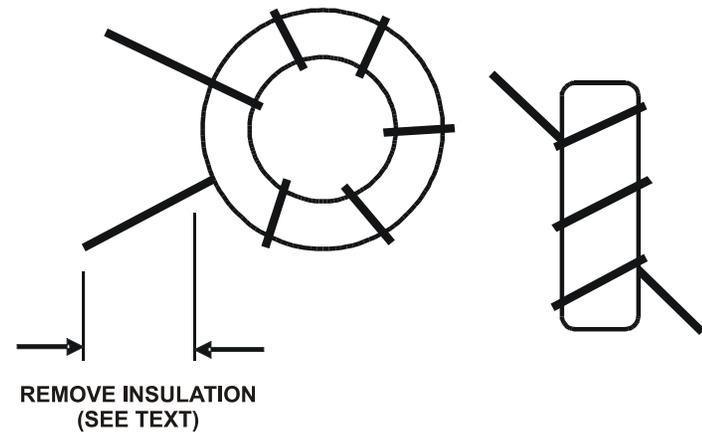

Figure 18. Winding Inductor L3.
- "Sew" the long end of the wire through the hole in the core for a total of 6 turns. Match the winding direction shown in Figure 18. Count one "turn" each time the wire passes through the center of the core. There are no "half" or "quarter" turns when winding a toroid.
- Spread the turns around the core so the finished result looks like Figure 18.